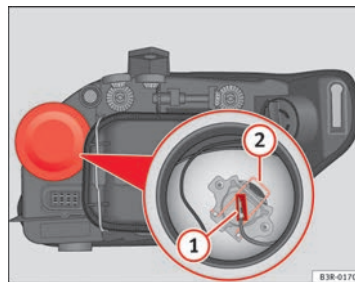

Fig. 192 Main beam headlights
- Remove the connector → fig. 192 **1** from the bulb.
- Press the spring → fig. 192 **2** inwards and to the right.